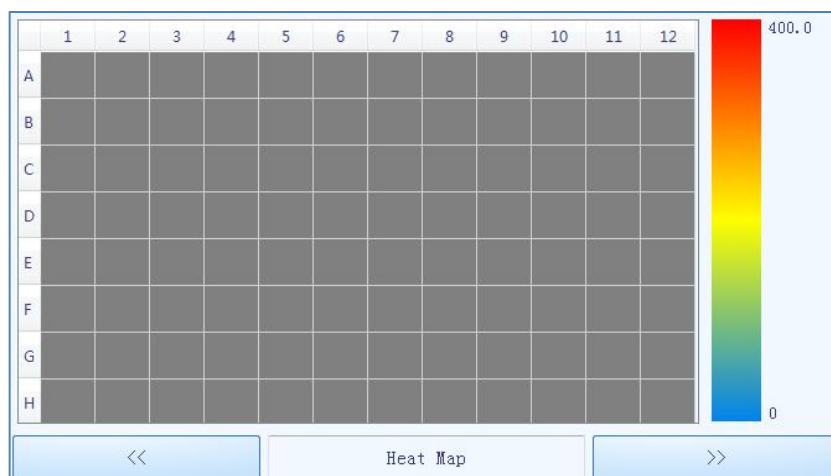

Figure E-5.3. Run Monitoring Diagram - Heat Map
- c. User can press  key below the run monitoring diagram to monitor the fluorescence **Heat Map** of the current experiment, as shown in figure E-5.3.